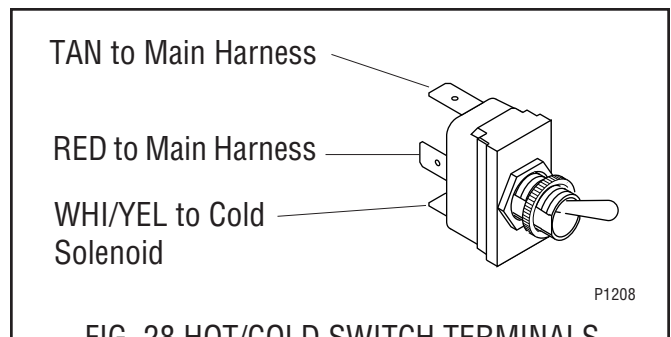

FIG. 28 HOT/COLD SWITCH TERMINALS
6. Refer to Fig. 28 when reconnecting the wires.